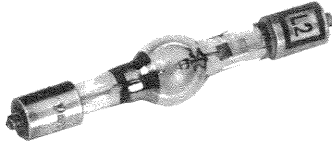

Figure 2.
1. Note whether #2055 Mercury Vapor Lamp is marked either L1 or L2, which designates certain operating voltage characteristics (Figure 2). The symbol L1 or L2 is subsequently referred to in Step 11.